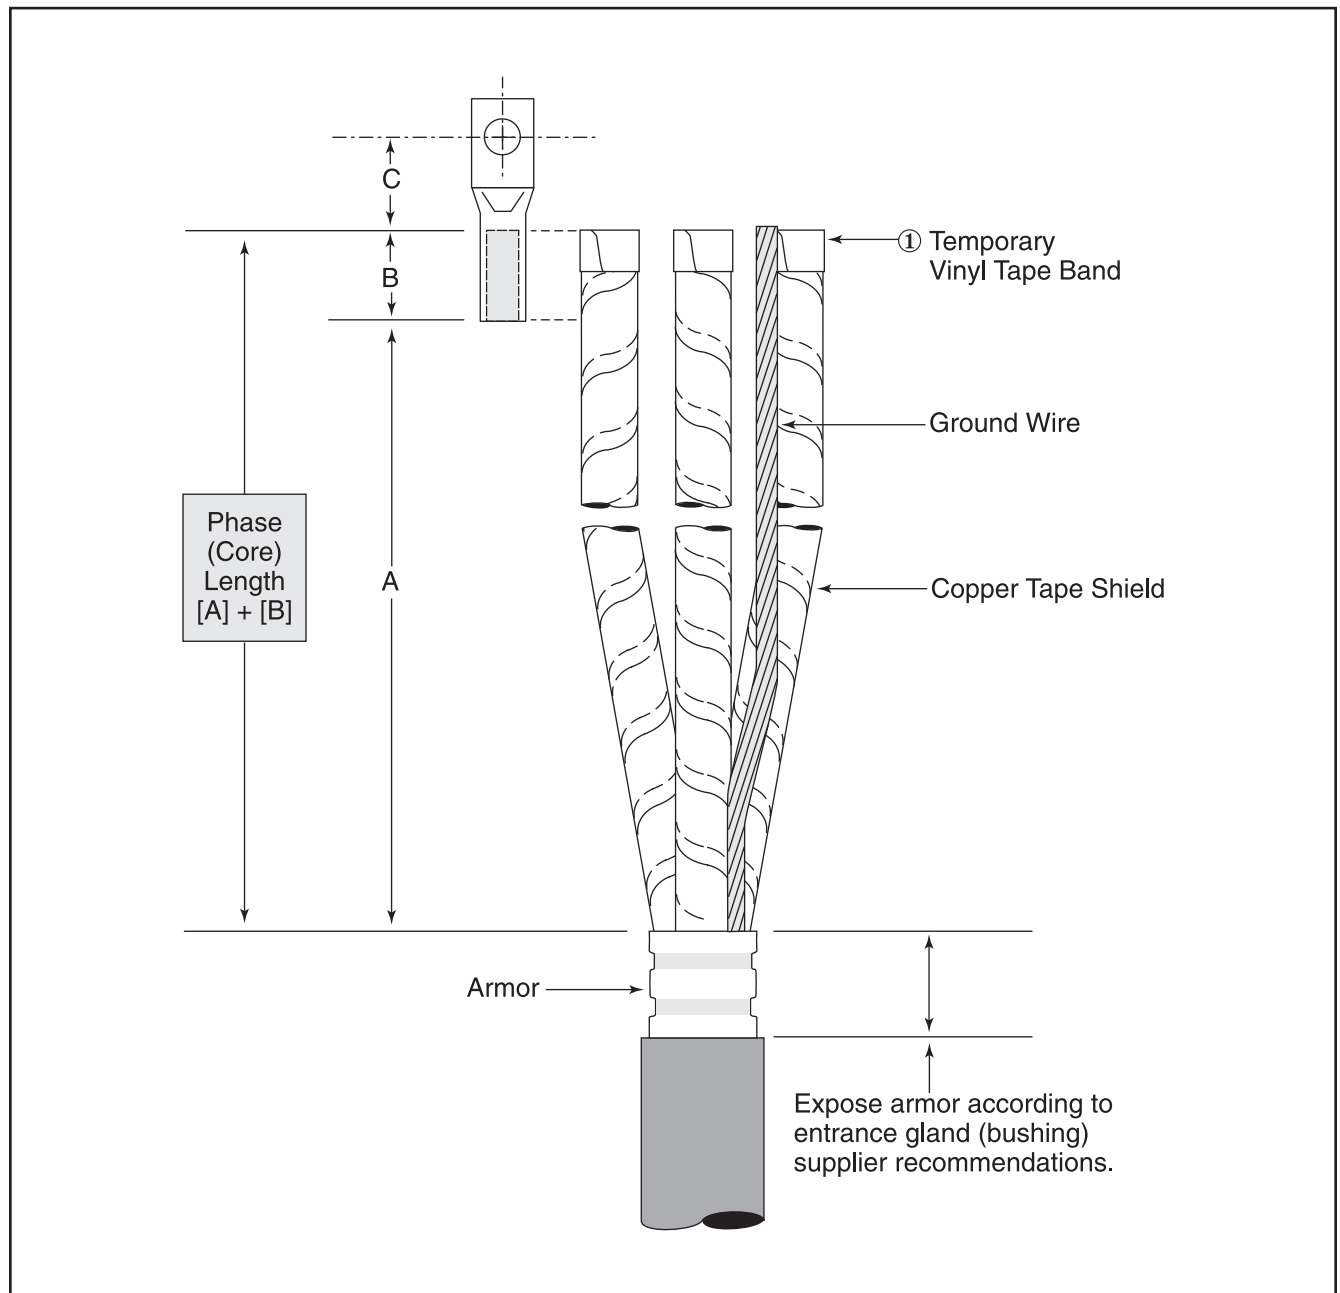

Figure 1
- 1.1 Determine phase (core) length required for correct phase spacing and bolted terminal lug connections ($A + B$ Figure 1, according to the longest phase to be connected). Allow for dimension C as needed.
- 1.3 Remove bedding (inner sheath), if present, and any remaining core fillers. Secure each copper tape shield end with a temporary band of vinyl tape (① Figure 1).